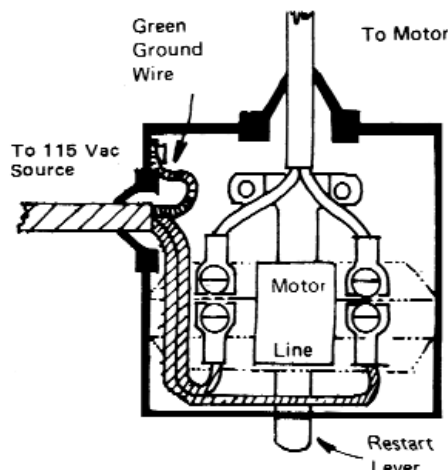

Fig. 1. Wiring Diagram for Vacuum Switch
3. To connect switch to motor see Fig. 1. Remove cord from motor. Connect switch to motor terminals using length of cord supplied with switch. Connect cord to line terminals of switch, attach ground wire.